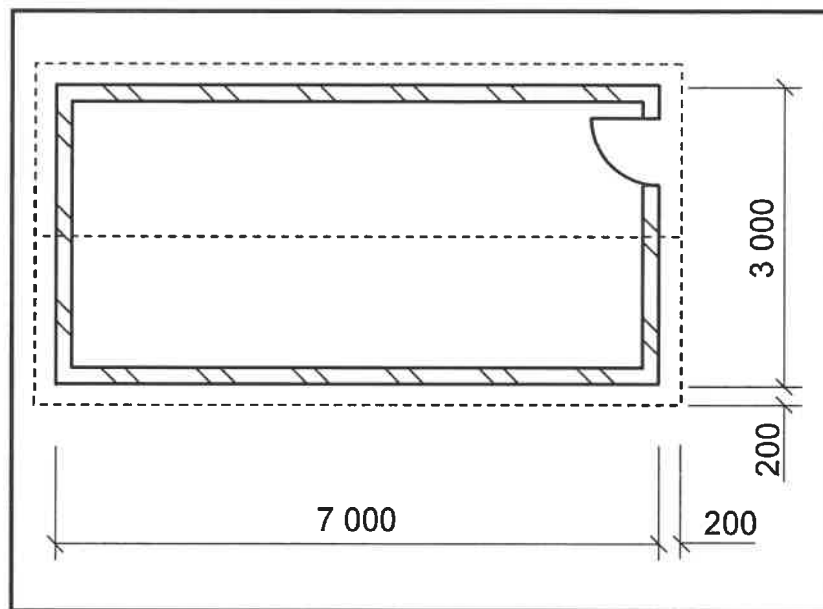

FIGURE 3.2
- 3.2 FIGURE 3.2 below shows the floor plan of a storeroom with a gable roof. The roof consists of couple roof trusses.